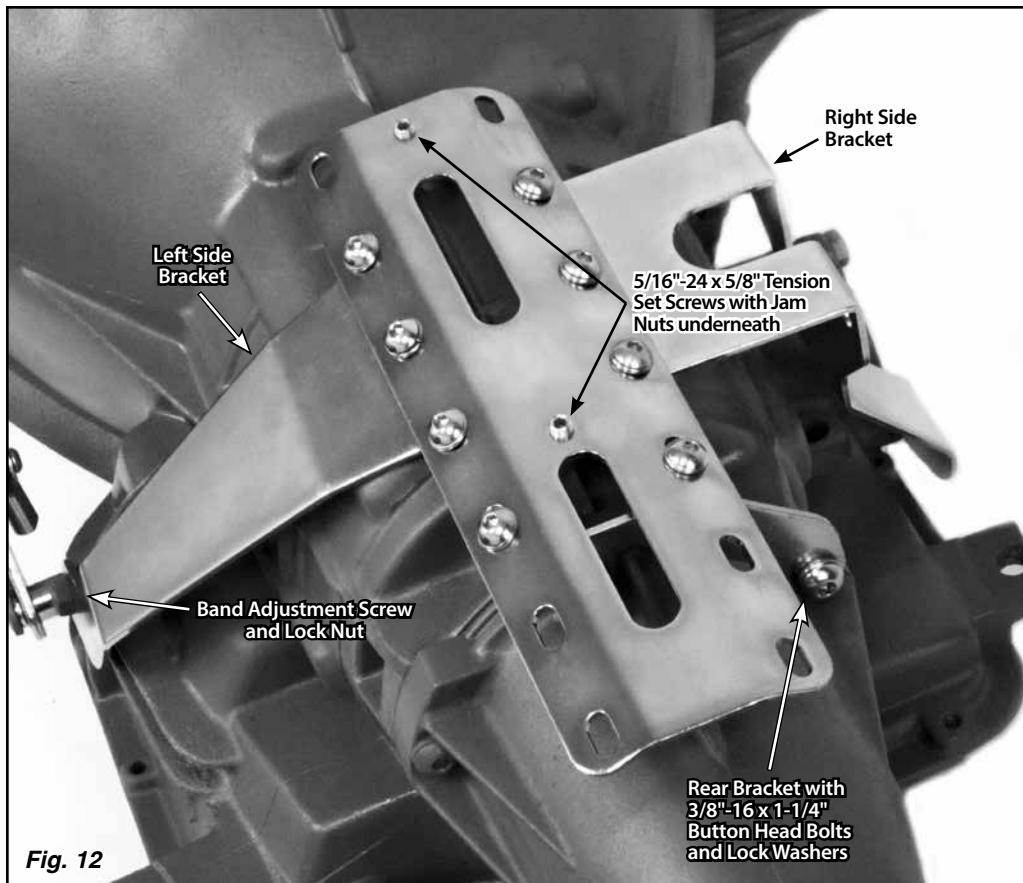

Fig. 12
Step 14: Place a small amount of silicone sealer around the band adjustment screw. Install the mounting bracket assembly onto the transmission by first placing the left side bracket over the band adjusting screw. Then, position the right side bracket over the servo cover bolt hole, and install the servo cover bolt you removed earlier. Install the original lock nut back onto the band adjustment screw. **Again, be sure that you do not change the adjustment!** Fig. 12